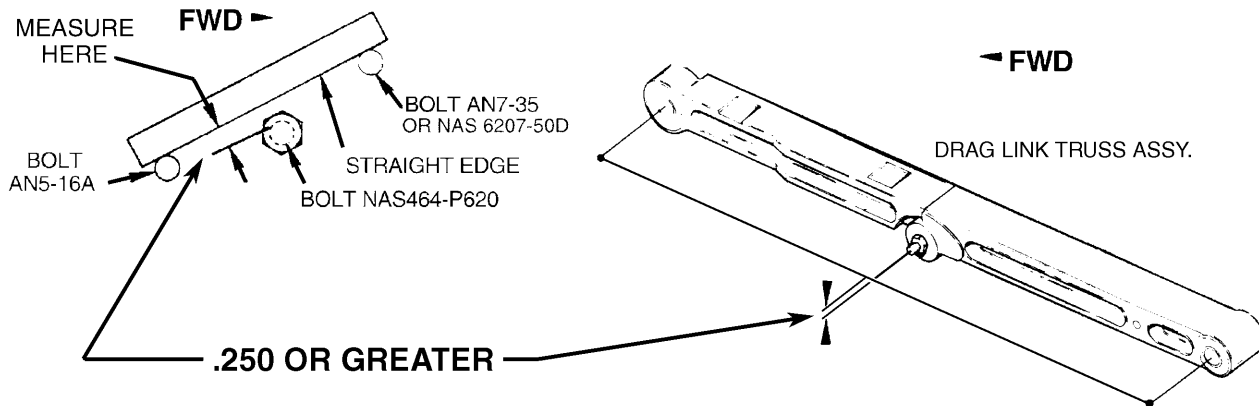

Figure 32-7. Drag Link Installation and Adjustment
- (6) 100 Hour Nose Gear Drag Link Inspection (See Figure 32-7.)
- (e) With reference to Figure 32-7, continue as follows for overcenter measurement:
- (15) Retract the gear and check that the up switch is just activated when the gear contacts the stop. Following this, adjust the switch upward another 0.02 to 0.04 of an inch.
- (16) Support the gear in its up locked position and adjust the rod end of the actuator piston rod to allow a minimum of 0.06 of an inch actuator travel remaining with the gear up and locked.
- (17) Cycle the gear a few times and check down lock, and up stop action, and switch activation. Include short pickup cycles which simulate gear sag pickup in flight. Leave gear up.
- (18) Check up switch bracket override action to ensure proper activation.
- (19) Extend the gear and check that the actuator piston travel remaining till full extension is not less than .15 of an inch.
- (20) Retract and free fall the gear to ensure the retraction link retention spring moves to the assemblies aft causing the down lock link to fully compress and the drag links to lock in their over center position.
- (21) Turn the nose gear full travel and make sure the clearance between the steering arm assembly and the tiller track is between 0.06 and 0.03 of an inch at both the left and right stops. (See the Rigging Tiller Track - Steering Arm Assy. Gap view, Figure 32-7.)